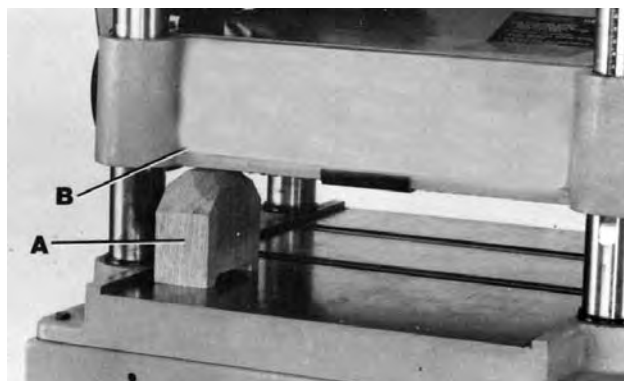

FIGURE 30
2. Place a constructed gauge block (A) Fig.30 on table directly under front edge of head casting (B) as shown. Lower head casting until front edge of head casting (B) just touches the top of the gauge block.